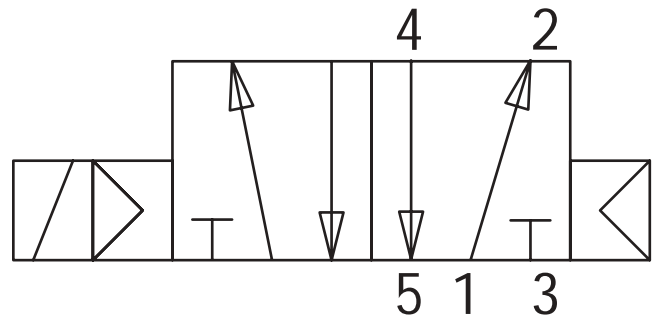
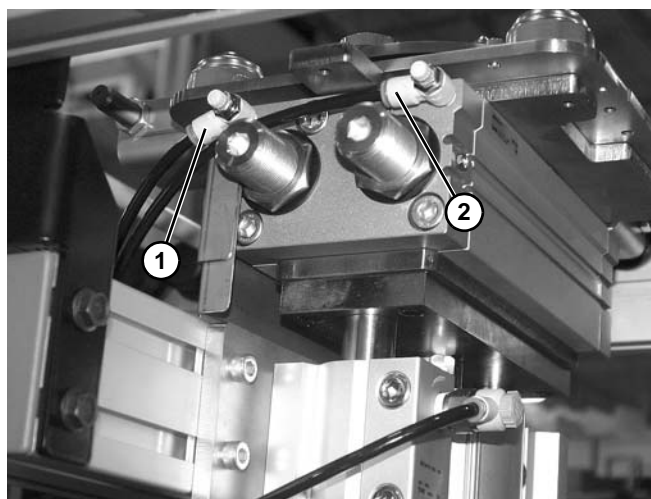

Figure 64
Figure 67
Dorner recommends using a 5-port 2-way solenoid valve (**Figure 64**) to operate the Rotating Actuator.
1. Connect Port 4 (**Figure 64**) of the 5-port 2-way solenoid to the left port (**Figure 67, item 1**) of the rotator. Dorner fittings accept 1/4" outside diameter tubing standard.
2. Connect Port 2 (**Figure 64**) of the 5-port 2-way solenoid to the right port (**Figure 67, item 2**) of the rotator. Dorner fittings accept 1/4" outside diameter tubing standard.